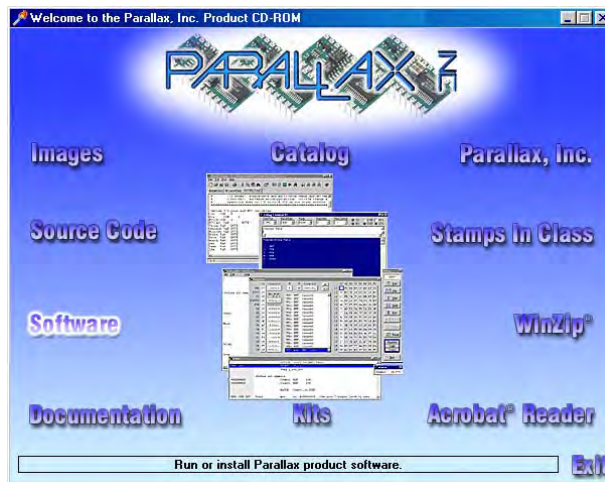

Figure 1-10
- ✓ Place the Parallax CD into your computer's CD drive. The Parallax CD browser is called the Welcome application. It's shown in Figure 1-10 and it should run as soon as you load the CD into your computer's CD drive.
- ✓ Click the Software link shown in Figure 1-10.